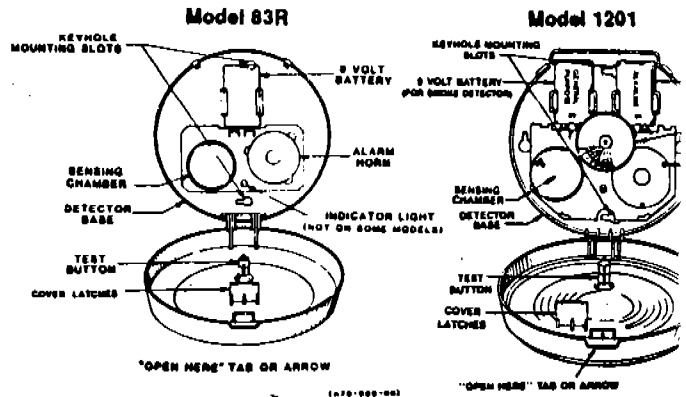

Figure 7: SMOKE DETECTORS WITH COVERS OPEN, SHOWING COMPONENTS
1. Hold base firmly, and pull up on cover tab or arrow marked "OPEN HERE." This will open the hinged cover. See Figure 7.
2. Place detector base against the ceiling (or wall) where you want to mount it. Use a pencil to trace around the inside of two of the key-hole shaped slots used for mounting. See Figure 7.